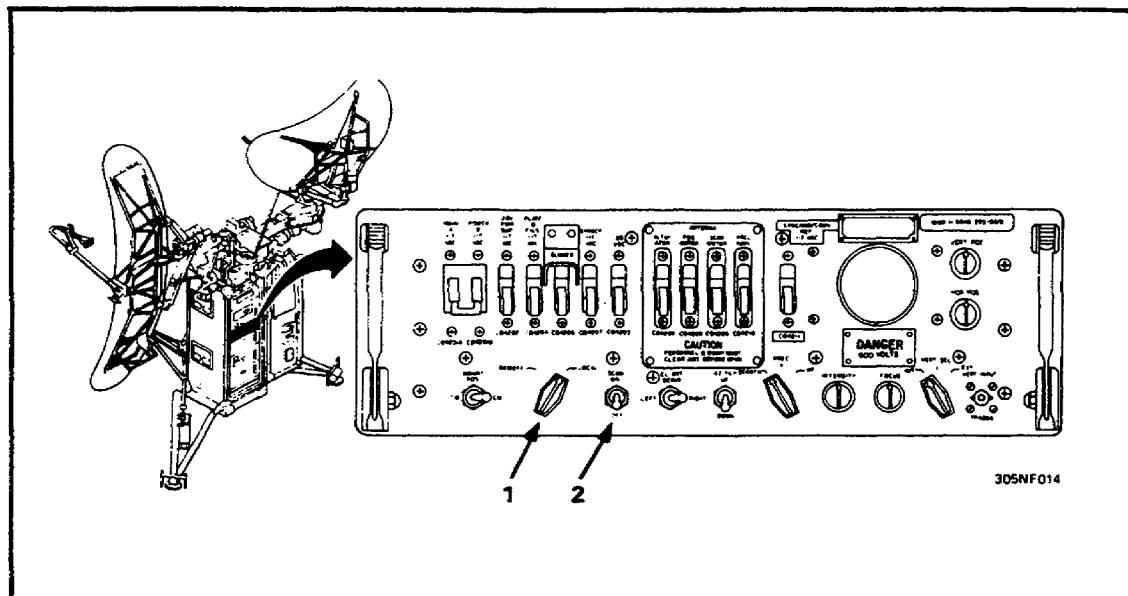

Figure 29. Control monitor C-2124A/FPN-33.
f. Perform the following on control-monitor C-2124A/FPN-33: (See Figure 29.)
- (1) Place LOCAL-REMOTE switch S4203 to LOCAL.
- (2) Place SCAN switch S4201 to OFF.